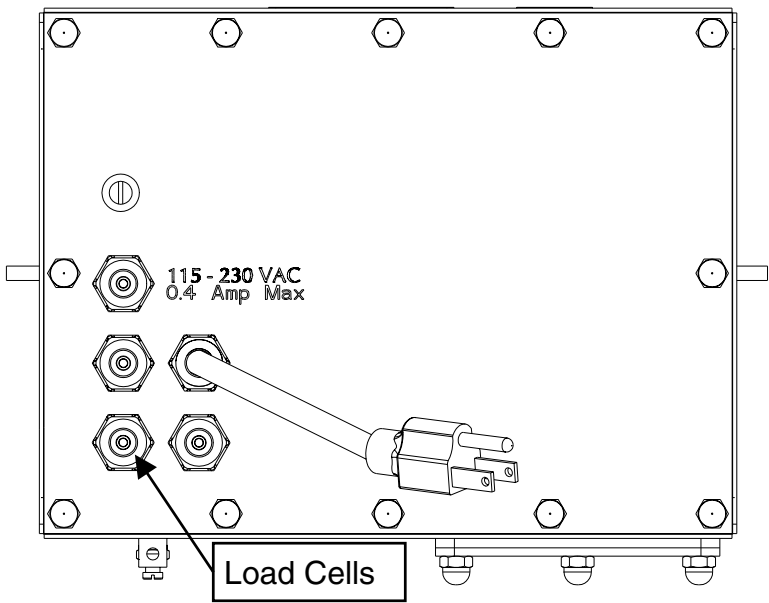

Figure No. 2
1. Remove the 12 acorn nuts securing the back panel to the main housing, then loosen the bottom-left cable gland connector for the load cell. This gland connector is located on the rear panel of the enclosure. Refer to Figure No. 2 for illustration of the connector layout.
- 1. Loosen the cable gland connector(s) for the serial cable. The gland connector(s) for the serial data are located on the rear panel of the enclosure. Refer to Figure No. 2 for an illustration of the gland connector layout.